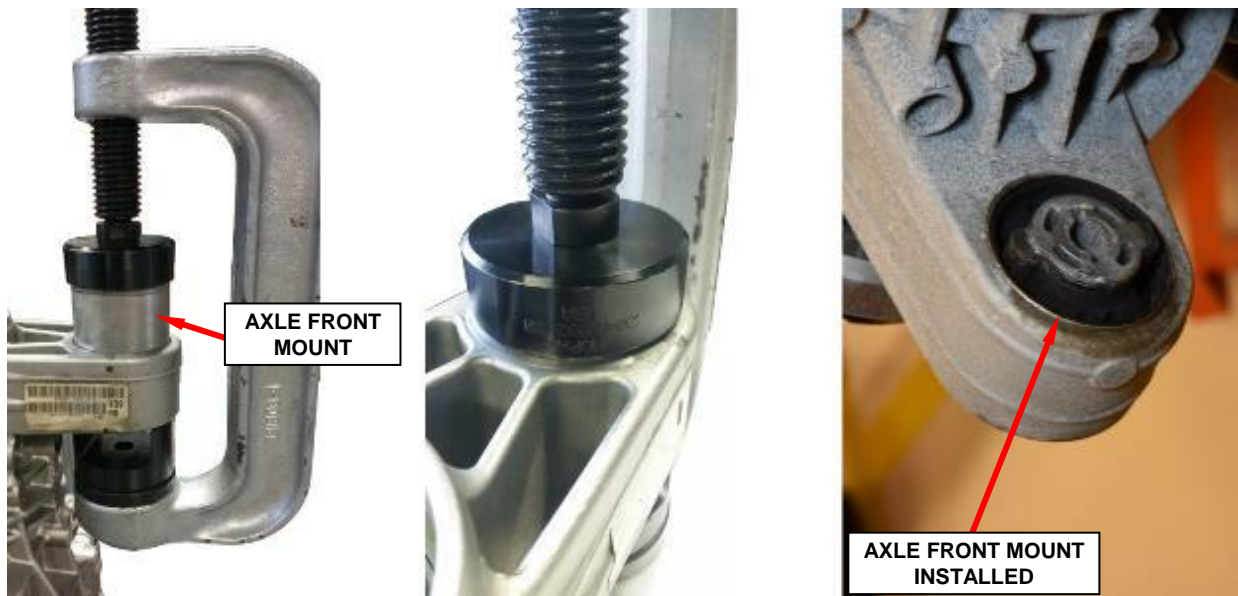

Figure 26 – Rear Axle Front Mount Installation
3. Install the **NEW** axle front mount in the **NEW** rear axle housing using; Ball Joint Press C-4212F, Center Screw Pin Adapter C-4212-7, Ball Joint Press Adapter C4212-6, Large Bushing Remover 2046502130 and Small Bushing Installer 2046507130 (Figure 26).